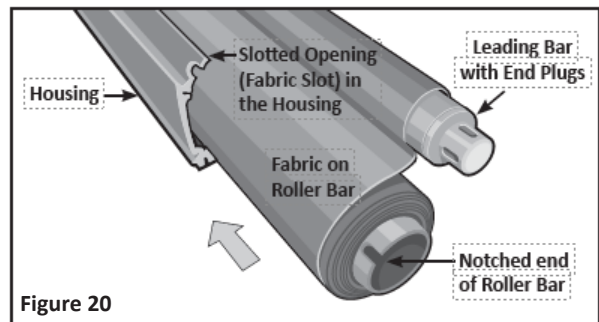

Figure 20
30. Carefully slide the non-motorized end of the roller bar and fabric into the housing until approximately six (6) inches of the roller bar still extends from the housing. The tube will lead the fabric out of the slotted opening in the housing. See **Figure 20**.